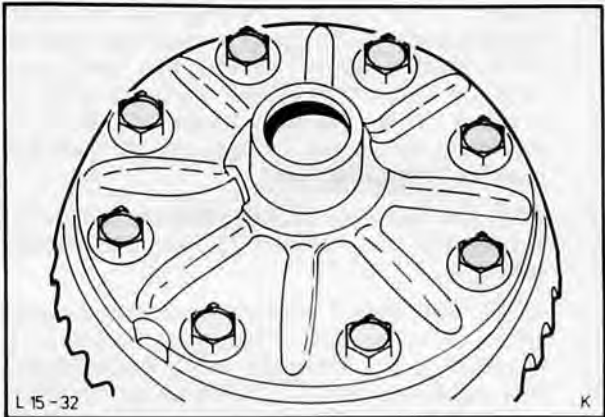

Fig. 66. Secure crown wheel evenly on differential housing
12. Fit crown wheel (8 bolts) ensuring that crown wheel is bolted down evenly on differential housing, Fig. 66.